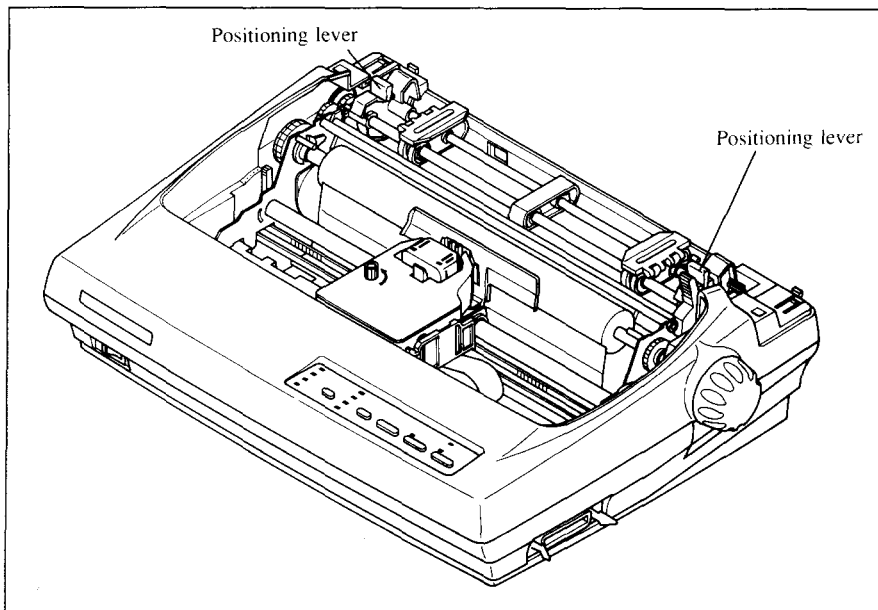

Figure 1-15. Pull up the tractor unit for bottom feeding
3. Grip the positioning levers on both side of the tractor unit, and pull the unit upwards as shown in Figure 1-15.